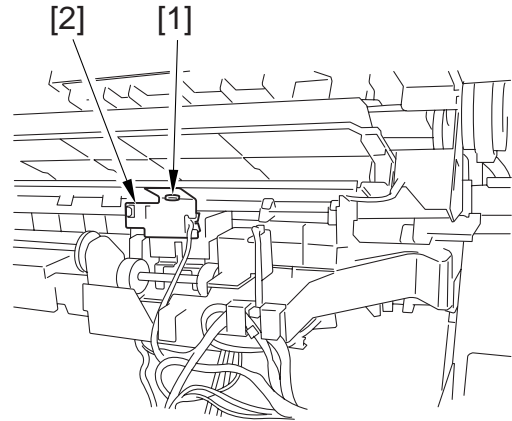

Figure 3-301
- 1) Remove the processing tray unit. (Figures 3-301 through -306)
- 5) Remove the processing tray. (Figures 3-301 through -306)
- 3) Remove the processing tray unit. (Figures 3-301 through -306)